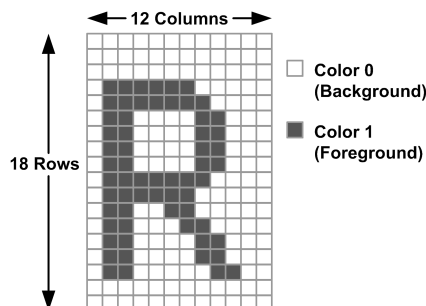
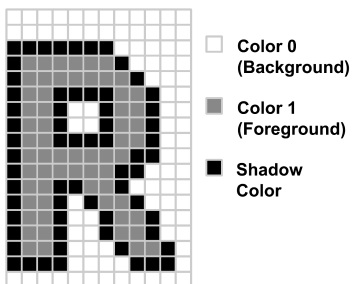

Figure 15. Two-Color Character
Figure 22. Bordering
Each character is defined as a 12 column by 18 row matrix of picture elements, or "pixels". The character font is shown in Figure 15 through Figure 22. There are two types of characters defined in the character ROM:
1. Two-color: There are a total of 190 two-color characters. Each pixel of these characters is defined by a single bit value. If the bit value is 0, then the color is defined as "Color 0" or the "background" color. If the bit value is 1, then the color is defined as "Color 1", or the "foreground" color. An example of a character is shown in Figure 15. The grid lines are shown for clarity to delineate individual pixels and are not part of the actual displayed character.
4. **Bordering**—A border can be added to the two-color characters. When a character is bordered, a border pixel is added at every horizontal, vertical or diagonal transition between color 0 and color 1. See Figure 22. The color of the border is determined by the value in the color palette register EF3 (normally black).